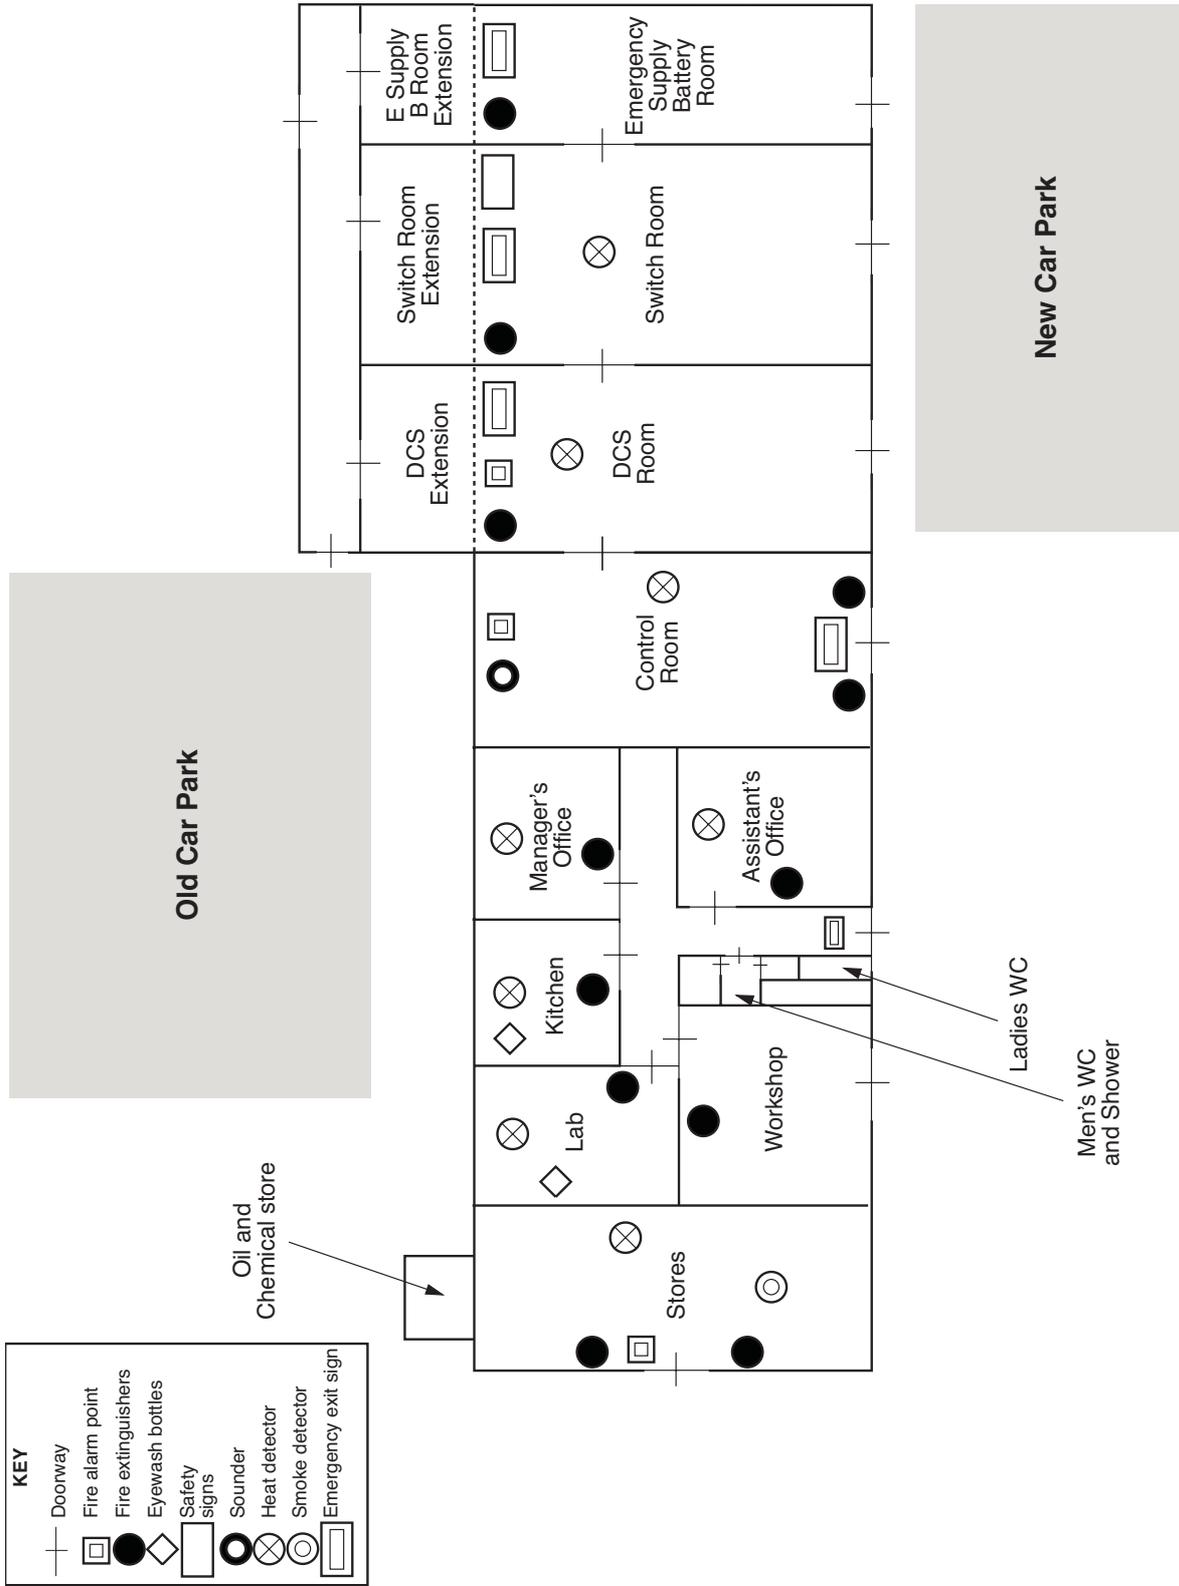

FIG. 1
- (c) FIGURE 1 shows a building with safety equipment installed. The old car park that was the designated muster point in an emergency is to be moved to the position shown for the new car park. The DCS, Switch and Emergency Supply rooms are to be extended to accommodate extra equipment for a process plant extension. The safety equipment and signs for these rooms are shown in their pre-extension positions. Relocate the safety equipment in the extended rooms by modification of FIGURE 1 to indicate new escape routes and a new muster point. State briefly the reasons for your selections.